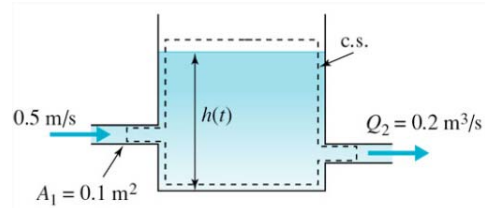

Fig. 2
2. Please determine the rate at which the water level rises (or falls) in an open container if the water coming in through a 0.10-m^2 pipe has a velocity of 0.5 m/s and the flow rate going out is $0.2 \text{ m}^3/\text{s}$, as shown in Fig. 2. The container has a circular cross section with a diameter of 0.5 m .